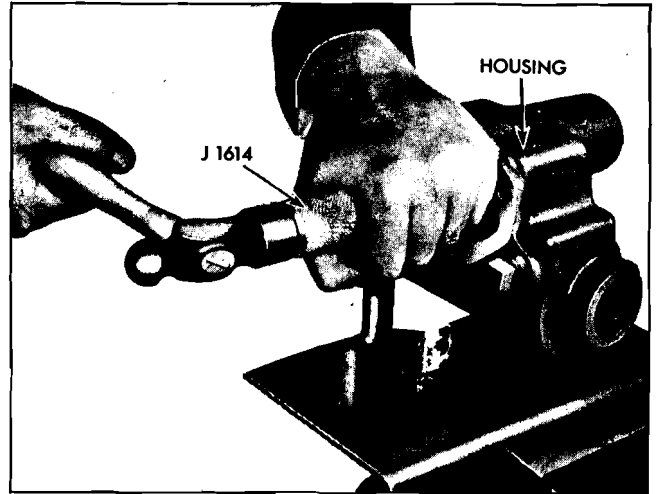

Fig. 9-51 Removing Pitman Shaft Bushing
2. Drive out bushing with tool J 1614 (Fig. 9-51).